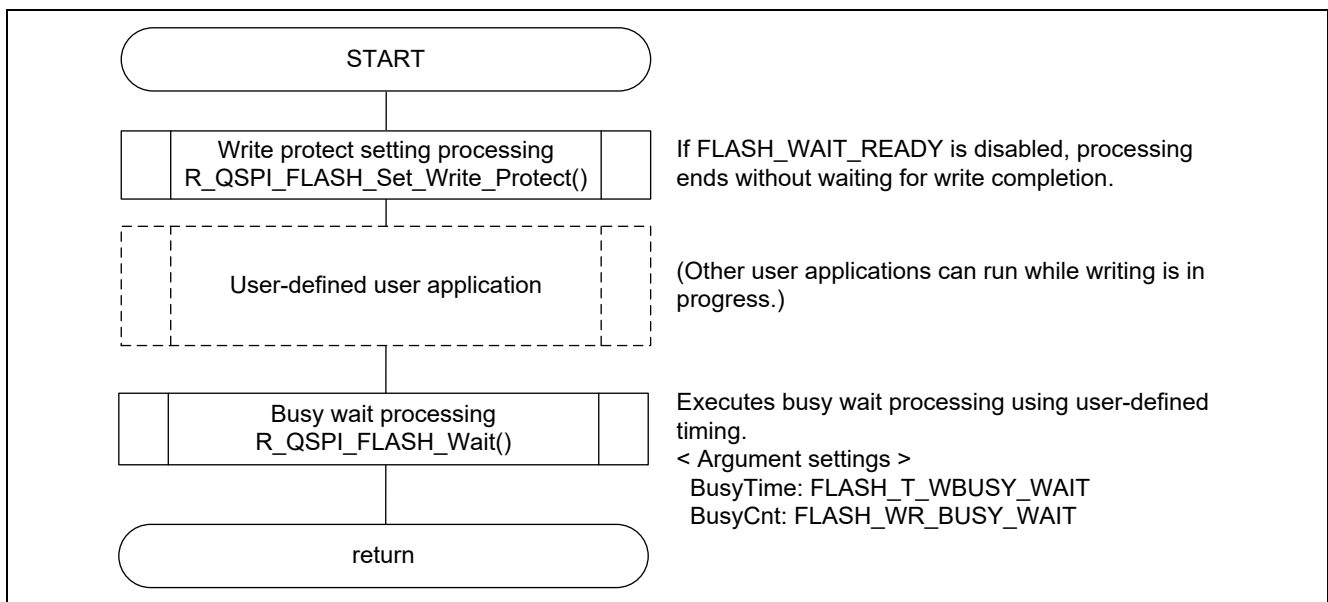

Figure 5.15 Using R_QSPI_FLASH_Wait() to Wait for Write Protect Setting Completion
- Disable FLASH_WAIT_READY in r_qspi_flash_mx25l.h, and call R_QSPI_FLASH_Wait() after processing by this user API has finished. This processing method allows you to perform write-end wait confirmation at any time you wish. Refer to figure 5.15 for instructions.